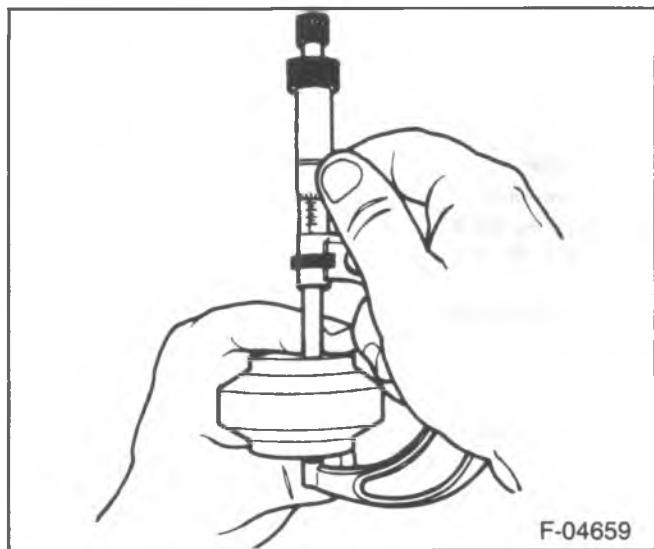

Figure 206—Measuring the Reaction Block
- Measure the thickness of the original reaction blocks together (figure 206).